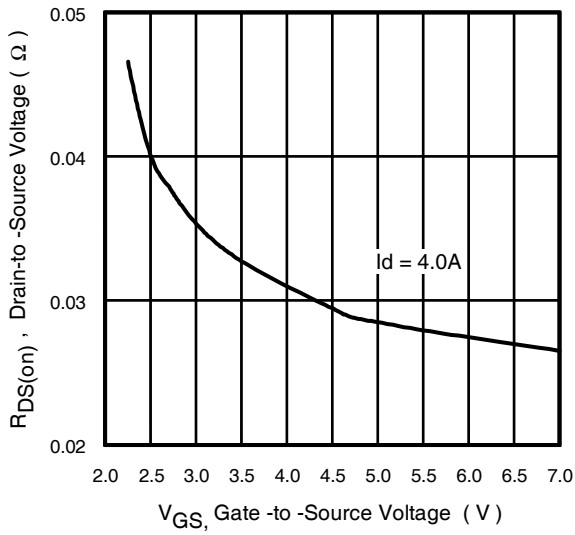

Fig 11. On-Resistance Vs. Gate Voltage
- ① Repetitive rating; pulse width limited by max. junction temperature. (See fig. 11)
- ② Pulse width $\leq 300\mu s$; duty cycle $\leq 2\%$.
- ③ Surface mounted on FR-4 board, $t \leq 5\text{sec}$.